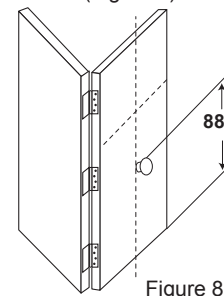

Figure 8
**9** The door knob should be placed in the centre of the guide door, 880mm for the bottom of flush doors. For all other doors at the centre of the mid rail. (Figure 8)